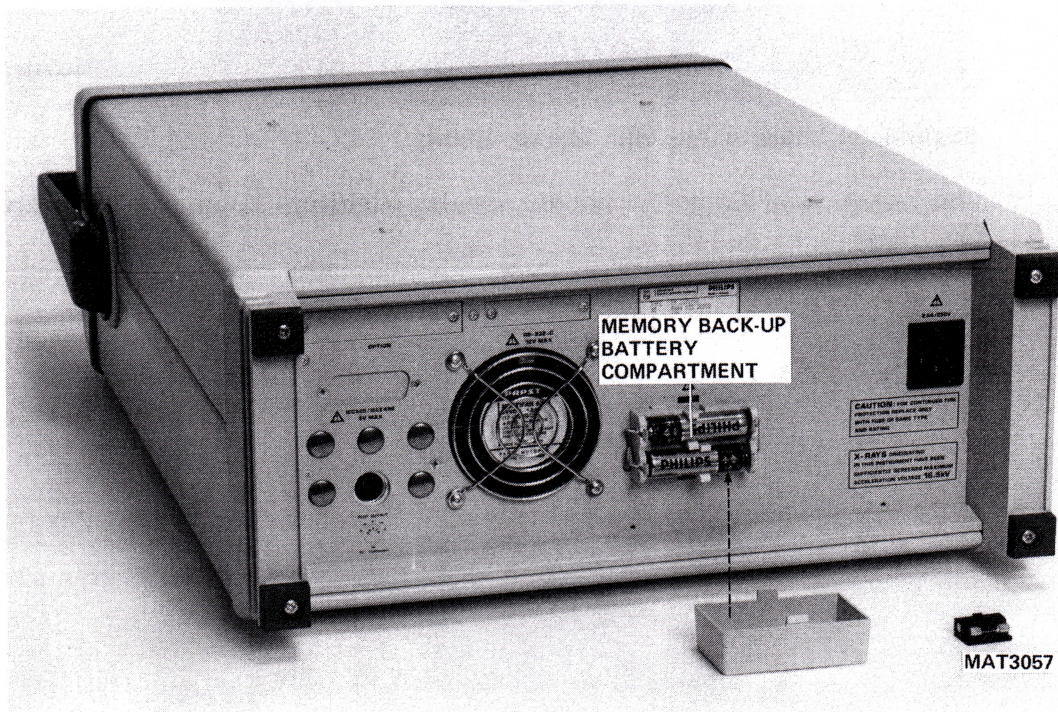

Figure 3.2 Rear view showing the battery compartment.
- remove the cover of the battery compartment located on the rear panel, by pressing the two locking tongues towards each other and pulling (see Fig. 3.2.). The battery holders are now accessible.
- insert the two penlight batteries, paying attention to the polarity indication marked on the holder (also on Fig. 3.2).